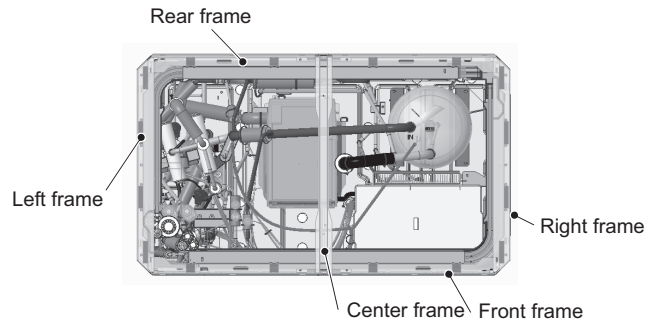

Figure 14
- (18) To remove the front heat exchanger, first remove the front, left, right, and center frames by unscrewing the 14 screws. (See Figure 14.)
To remove the rear heat exchanger, remove the rear frame in addition to the front, left, right, and center frames by unscrewing the 16 screws. (See Figure 14.)